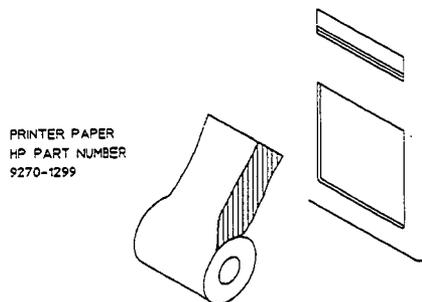

Figure 2-30. Paper Feed Direction
3. Undo the new roll of paper and place in the printer compartment such that the paper feeds up the open end of the compartment (See Figure 2-30).
4. Using scissors cut the first 2 inches of the paper as shown in Figure 2-30.